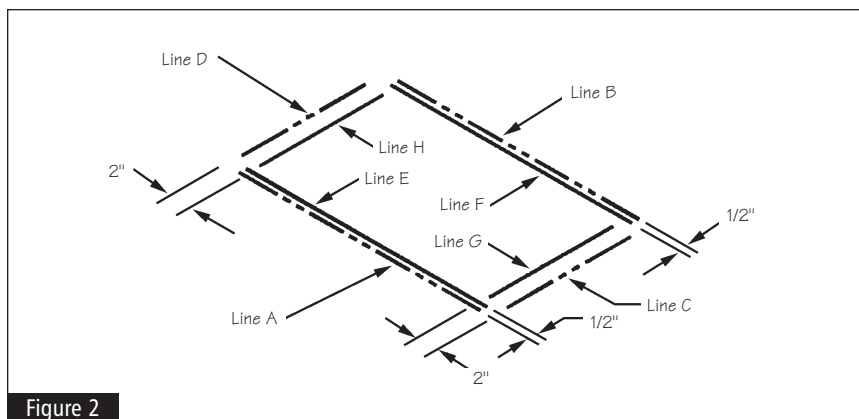

Figure 2
- 2** Remove the peninsula base cabinet. Using lines A and B drawn in Step 1, mark two new lines 1/2" inside of these lines. Now, using lines C and D drawn in Step 1, mark two new lines approximately 2" inside of these lines. See Figure 2.